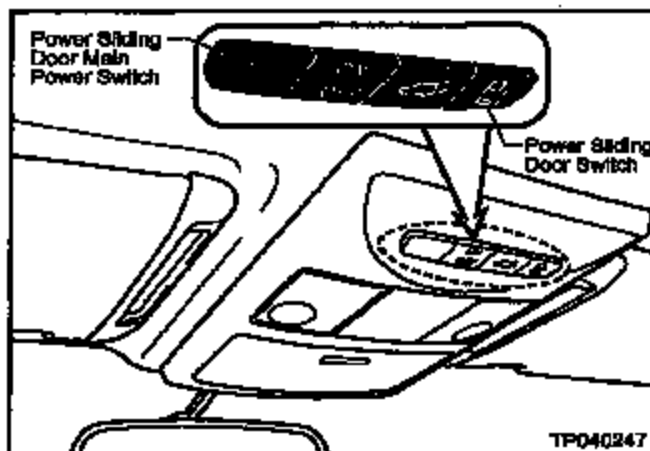

Figure 19
42. Make sure the Power Sliding Door Main Power Switch is OFF (see Figure 19).